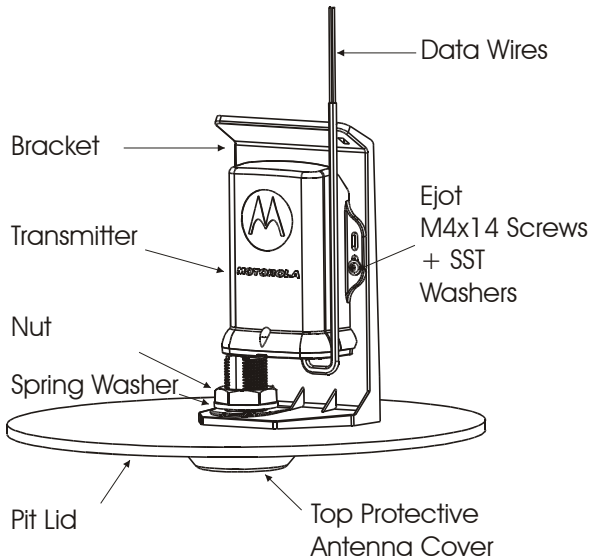

Figure 9
9. Secure the transmitter to the bracket with two Ejot M4x14 stainless steel screws and two stainless steel flat washers, inner diameter: 0.17", outer diameter 3/8", thickness 0.032" (supplied) as shown in Figure 9.